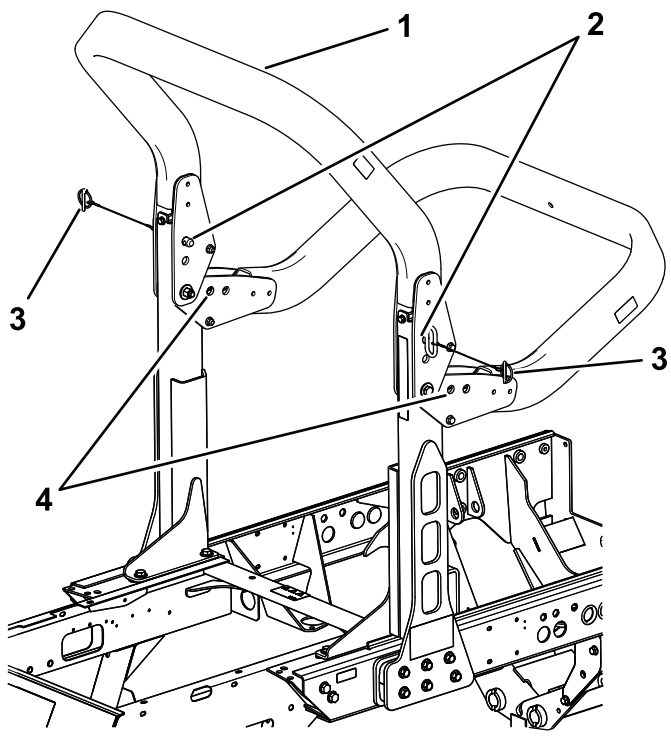

Figure 42
2. Support the weight of the upper frame while removing the snap pins and clevis pins from the pivot brackets (Figure 42).